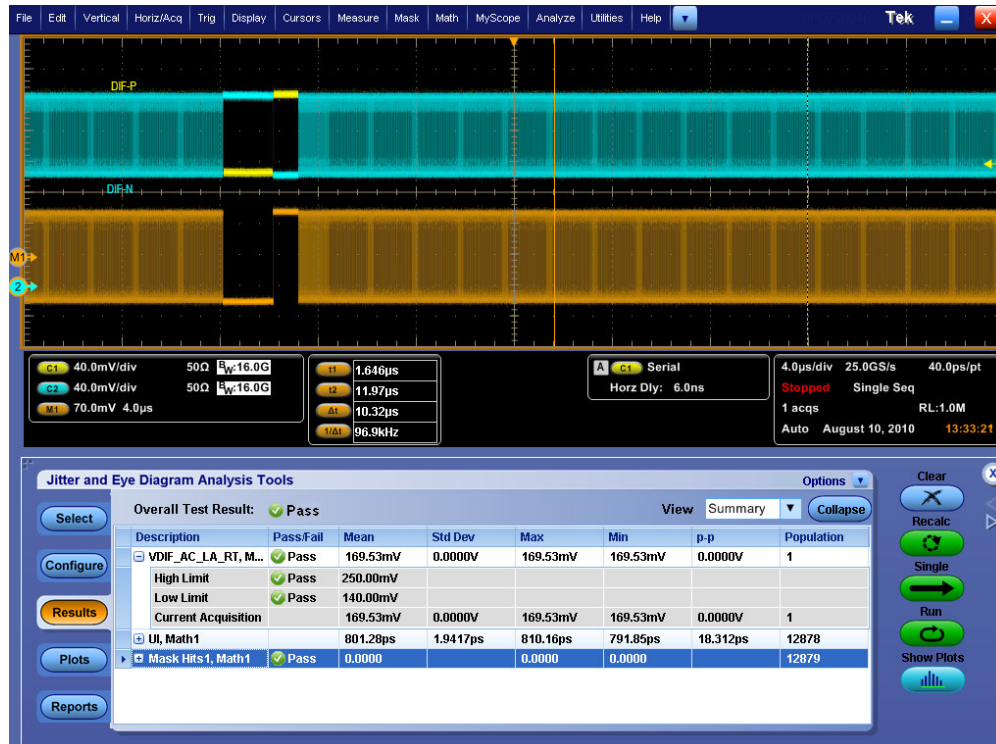
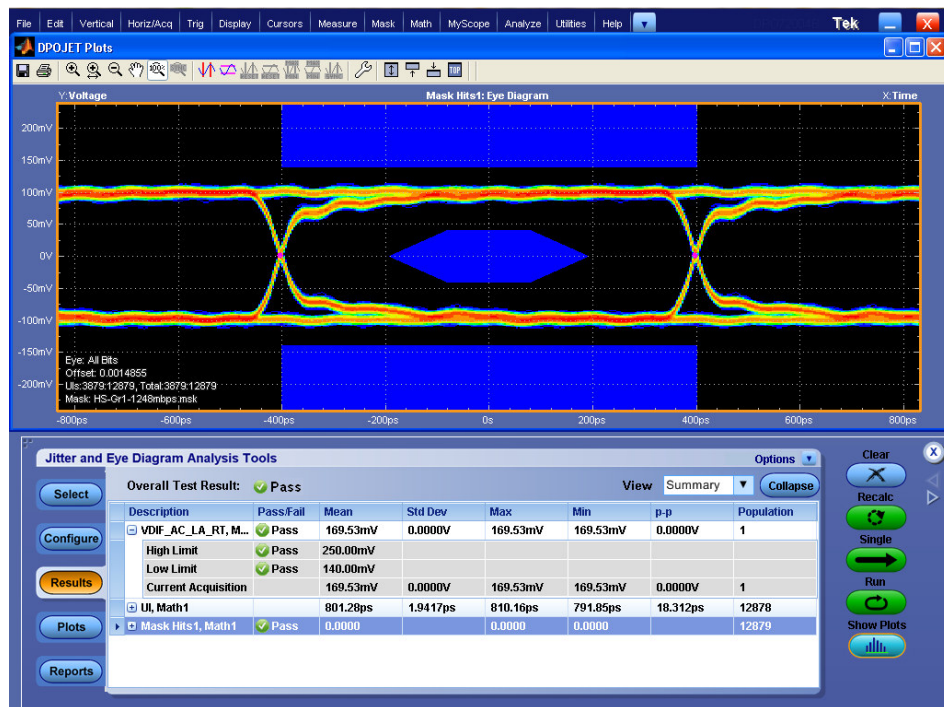

Figure 5: VDIF\_AC\_LA\_RT\_TX Measurements
Figure 6: VDIF\_AC\_LA\_RT\_TX EYE Diagram
- Click on **Single Run** and Verify the result as shown below in the Figure 5 and Figure 6.